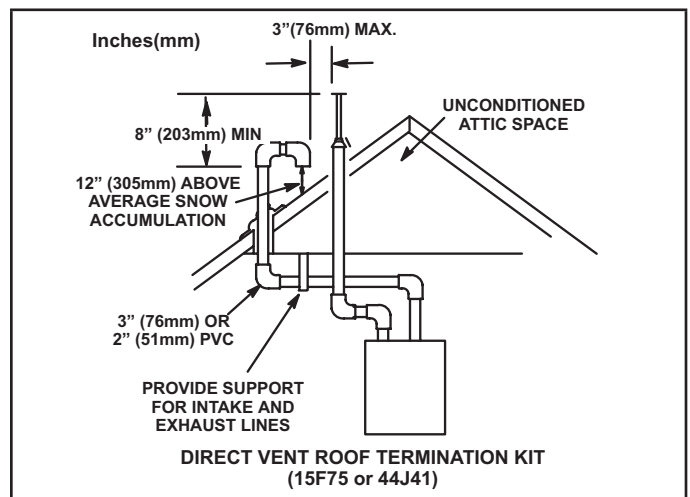
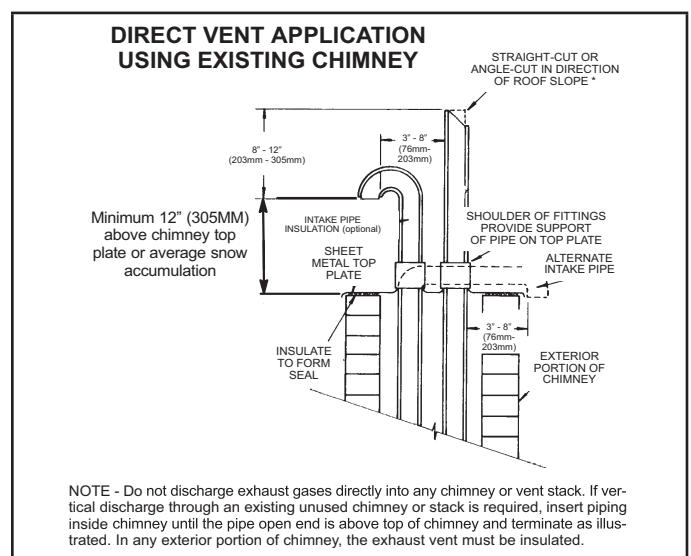

FIGURE 33
FIGURE 38
Intake and exhaust pipes may be routed either horizontally through an outside wall or vertically through the roof. In attic or closet installations, vertical termination through the roof is preferred. FIGURE 33 through FIGURE 38 show typical terminations.
- 3 - On roof terminations, the intake piping should terminate straight down using two 90° elbows (See FIGURE 33).